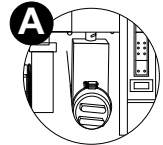

Figure 13.2g
2. Locate the Quick Drain Valve, Figure 13.2g.